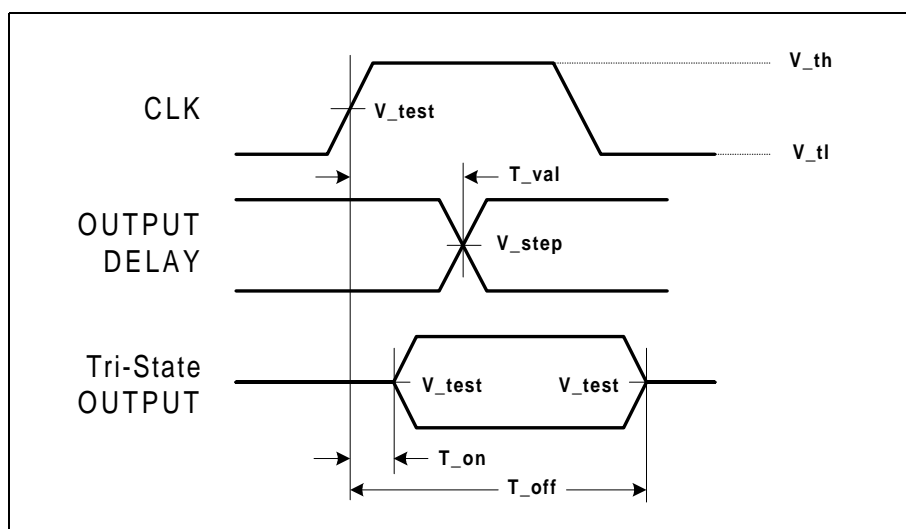
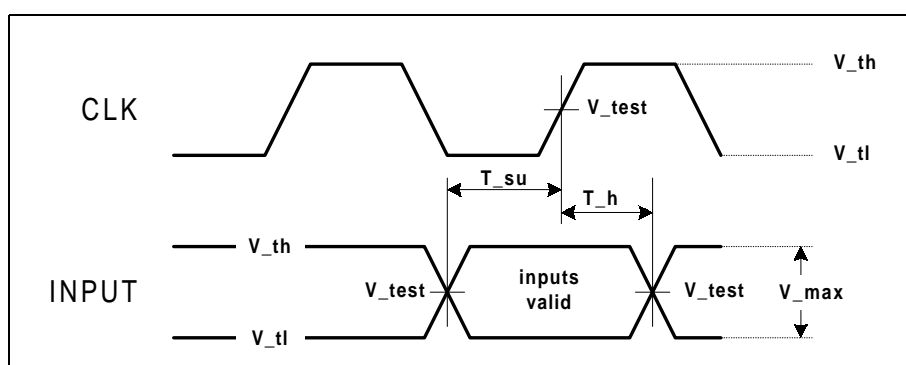

Figure 27. Output Timing Measurement Conditions
Figure 28. Input Timing Measurement Conditions
Figure 27, Figure 28, and Table 23 define the conditions under which timing measurements are done. The component test guarantees that all timings are met with minimum clock slew rate (slowest edge) and voltage swing. The design must guarantee that minimum timings are also met with maximum clock slew rate (fastest edge) and voltage swing. In addition, the design must guarantee proper input operation for input voltage swings and slew rates that exceed the specified test conditions.
1. Timing measurement conditions are illustrated in Figure 27.
4. Timing measurement conditions are illustrated in Figure 28.